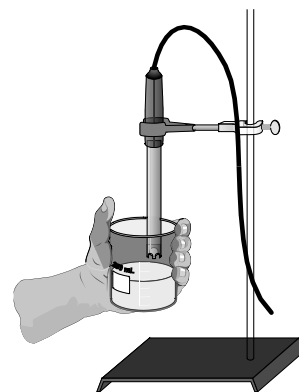

Figure 2
4. Use a utility clamp to fasten the pH Sensor to a ring stand as is shown in Figure 2.